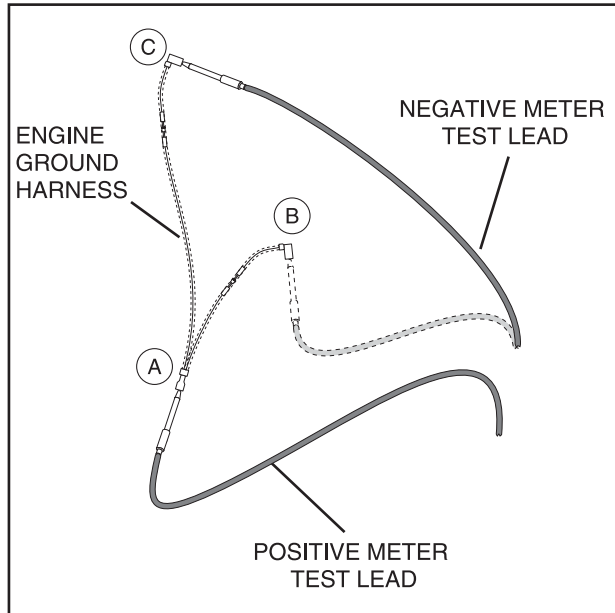

Figure 7-40. – Engine Ground Harness Test Points
14. Connect the positive (+) test lead to Connector “A” (as shown in Figure 7-40). Connect the negative (-) test lead to Connector “B.”
- d. Now repeat Steps 14a through 14c with the negative meter test lead connected to Connector “C” (Figure 7-40).